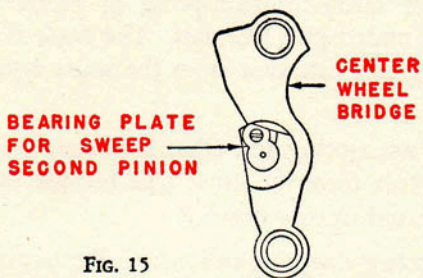

FIG. 15
16. Remove bearing plate for sweep second pinion. See Fig. 15.